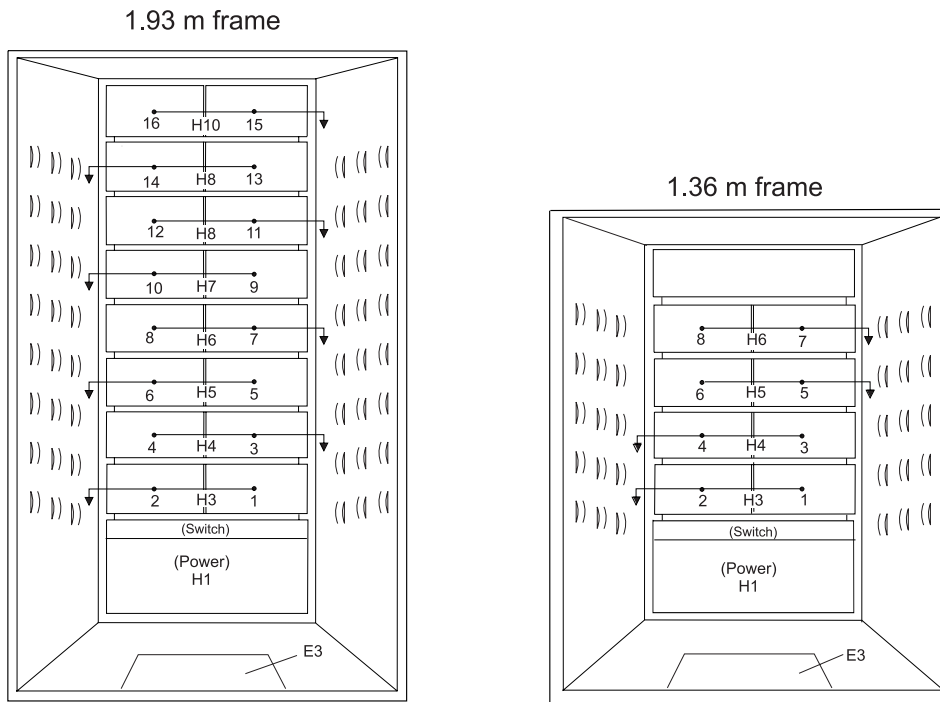
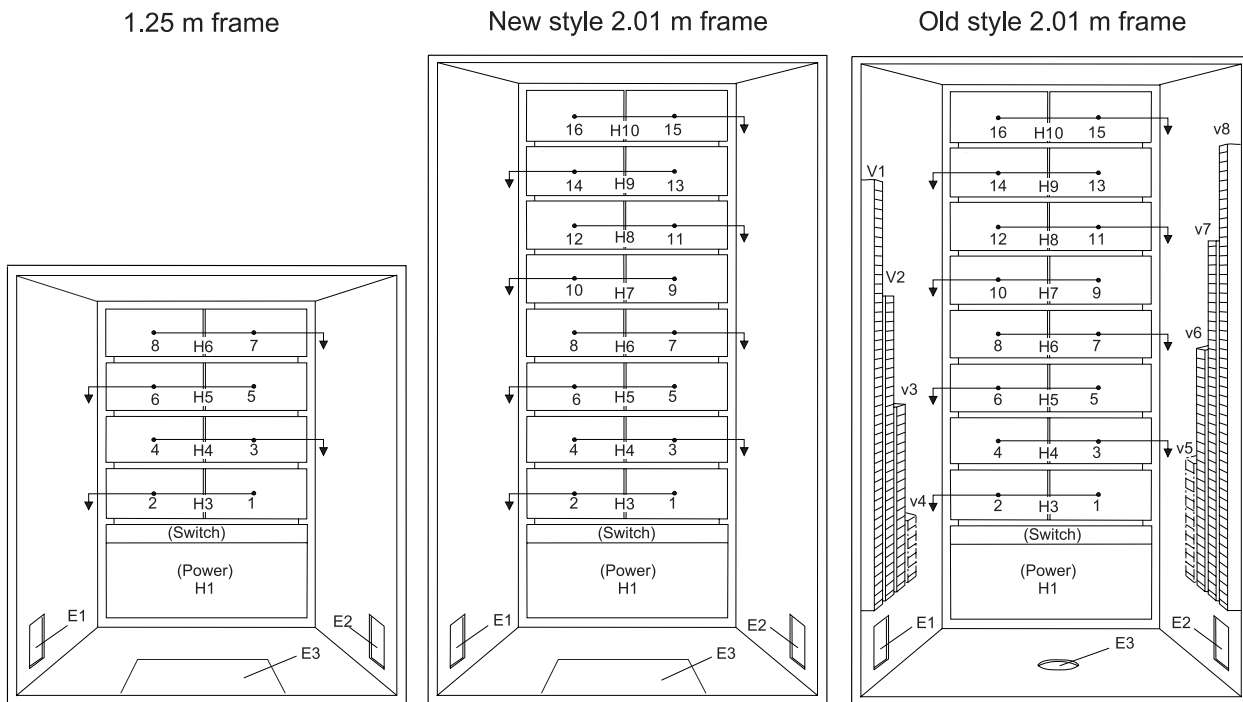

Figure 2-7. Frame cabling routing path in rear of RS/6000 SP frame — 1.93 m frame
Figure 2-8. Frame cabling routing path in rear of RS/6000 SP frame — 2.01 m frame
Figure 2-7 on page 2-10 and Figure 2-8 on page 2-10 show back views of the RS/6000 SP frame, showing the horizontal and vertical paths of cable routing from connector-to-connector, with the depth amplified on the drawing.
**Note:** For a multi-switch frame (F/C 2030/1), refer to Figure 2-7.